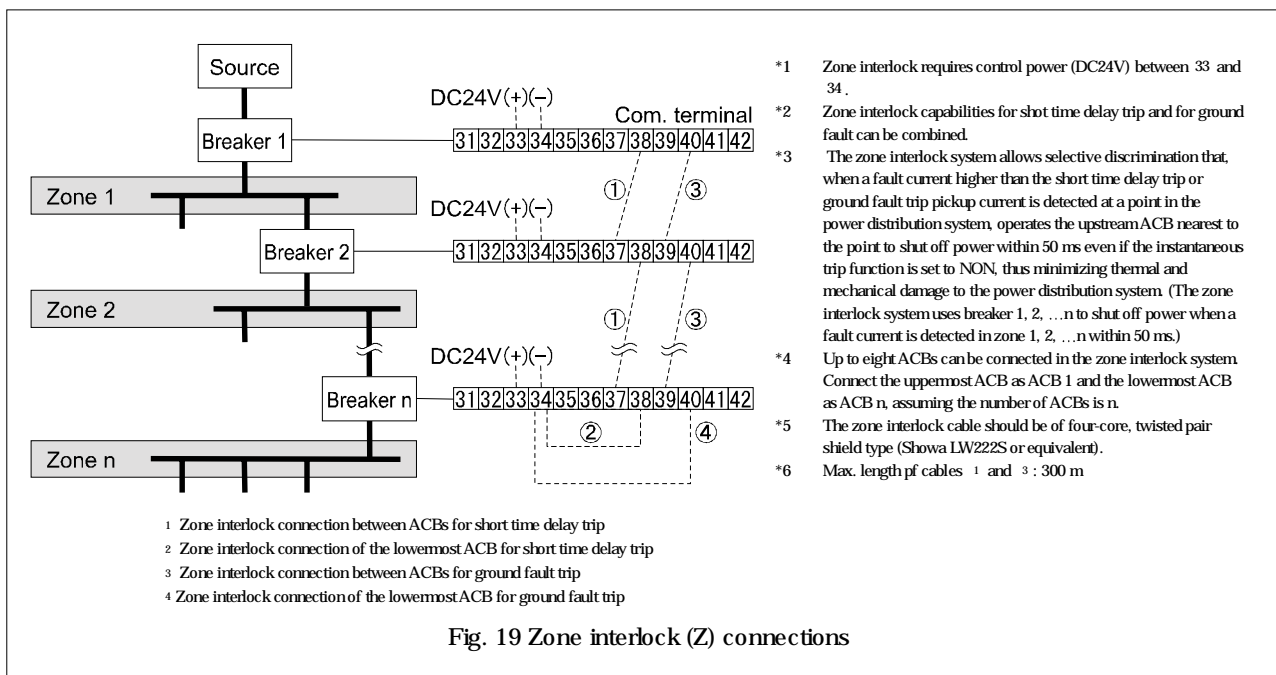

Fig. 19 Zone interlock (Z) connections
Fig. 19 shows how to connect ACBs when the overcurrent release (OCR) is provided with the zone interlock (Z) capability. See Fig. 15 for other circuits than that of the zone interlock.